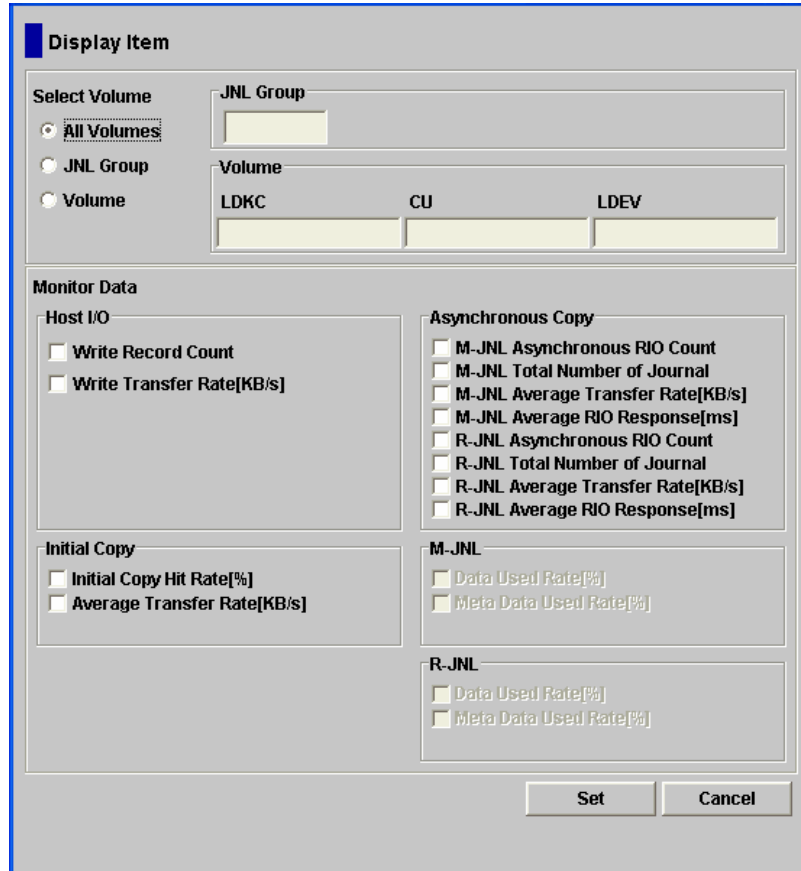

Figure 9-1 Display Item Window
2. Right-click the graph area of the Usage Monitor window, and select Display Item to open the Display Item window (see Figure 9-1).